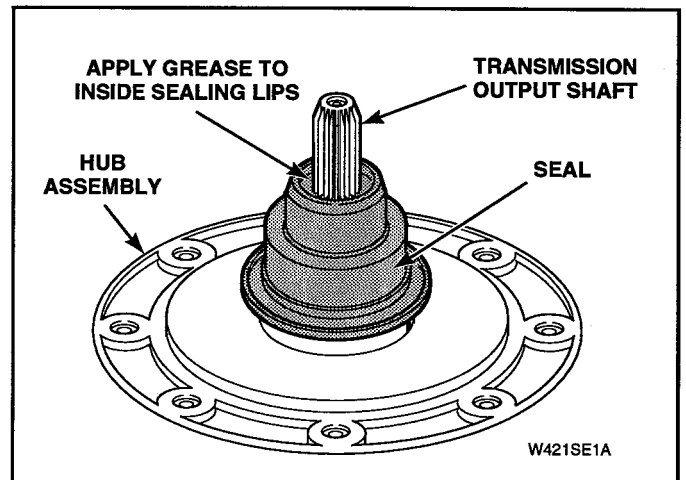

Figure 5-16
- Lubricate new seal with liquid soap or soapy water to aid in assembly of seal onto hub. See Figure 5-16.
- Apply a small amount of supplied grease, No. 36765P, to inside sealing lips of seal. See Figure 5-16.
**NOTE:** Top edge of front panel is held in place by two spring clips located on bottom flange of cabinet top. See Figure 5-16.